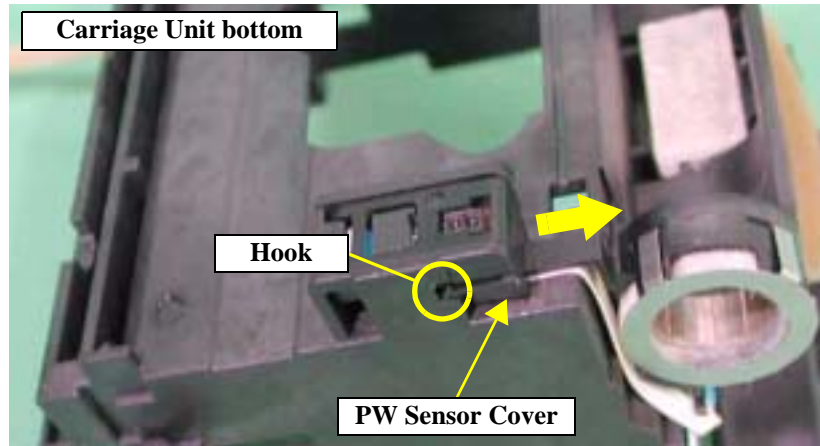

Figure 4-97. Removing the PW Sensor Cover
- When reinstalling the PW Sensor, hitch it on the hook of the PW Sensor Cover. Refer to Figure 4-97, "Removing the PW Sensor Cover".